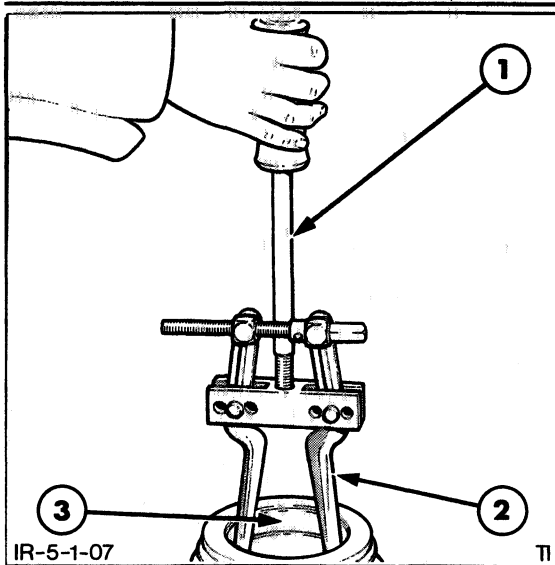

FIGURE 5-7
3. If necessary, remove the axle shaft outer bearing cup from the housing using Tool Nos. 943 or FNH09507 and 943S or FNH09567, Figure 5-7.